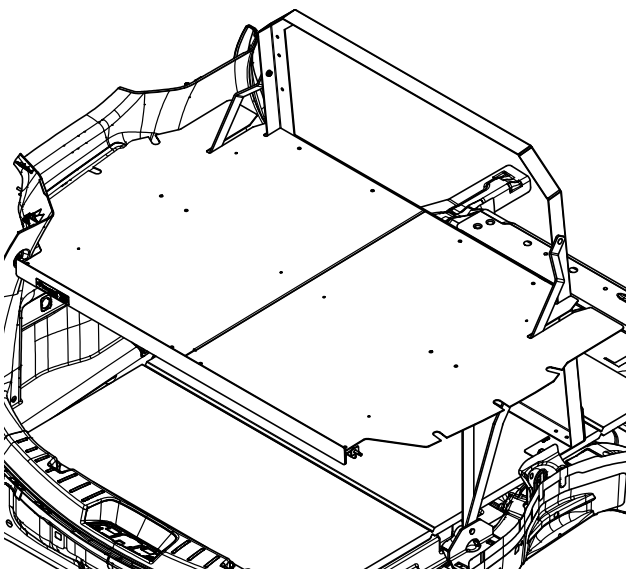

Figure 3
A. Place the 3CSC4716-01 cargo shelf into place over the brackets and cross members on the driver side. adjust the shelf so that the pre-drilled holes line up with the holes in the bracket and cross members that were aligned in the previous steps. Then using 3X03 bolts secure the shelf in place threading the bolts into weldnuts on the brackets using the aligned hole locations. There is a hole in the front near the center that requires a 3X16 nut, instead of a weldnut. Repeat on the passenger side using the 3CSC4716-02 cargo shelf. See Figure 3 & 4. In all of the remaining hole locations on the top of the shelf, insert the 3X246 push-in nylon rivets.